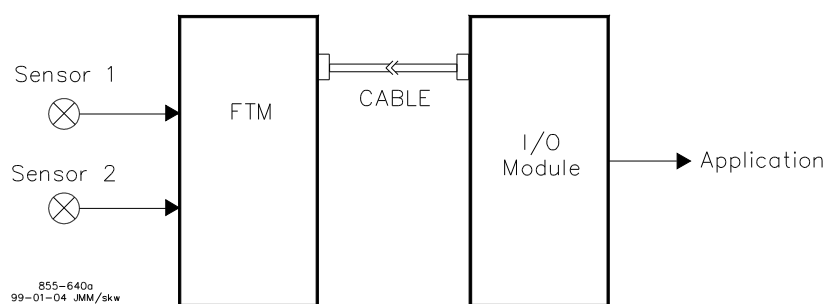

Figure 2-9. Redundant Sensors
- If the BACKUP syncs in correctly, the backup fault indication in the GAP will go FALSE (see Figure 2-9).